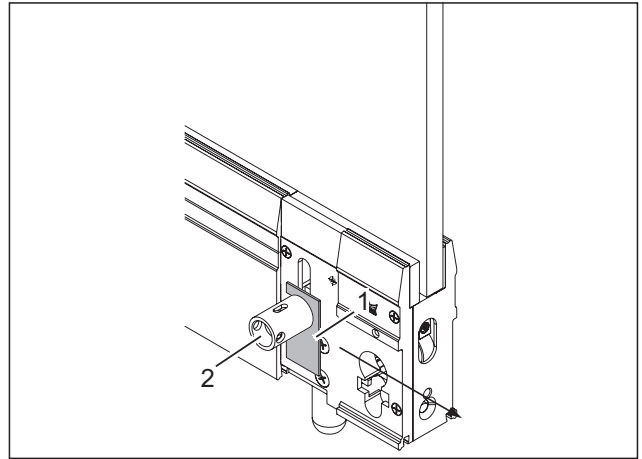

Fig. 29 Removing the panel
6. Remove the panel (Fig. 29/1) behind the sleeve (Fig. 29/2).